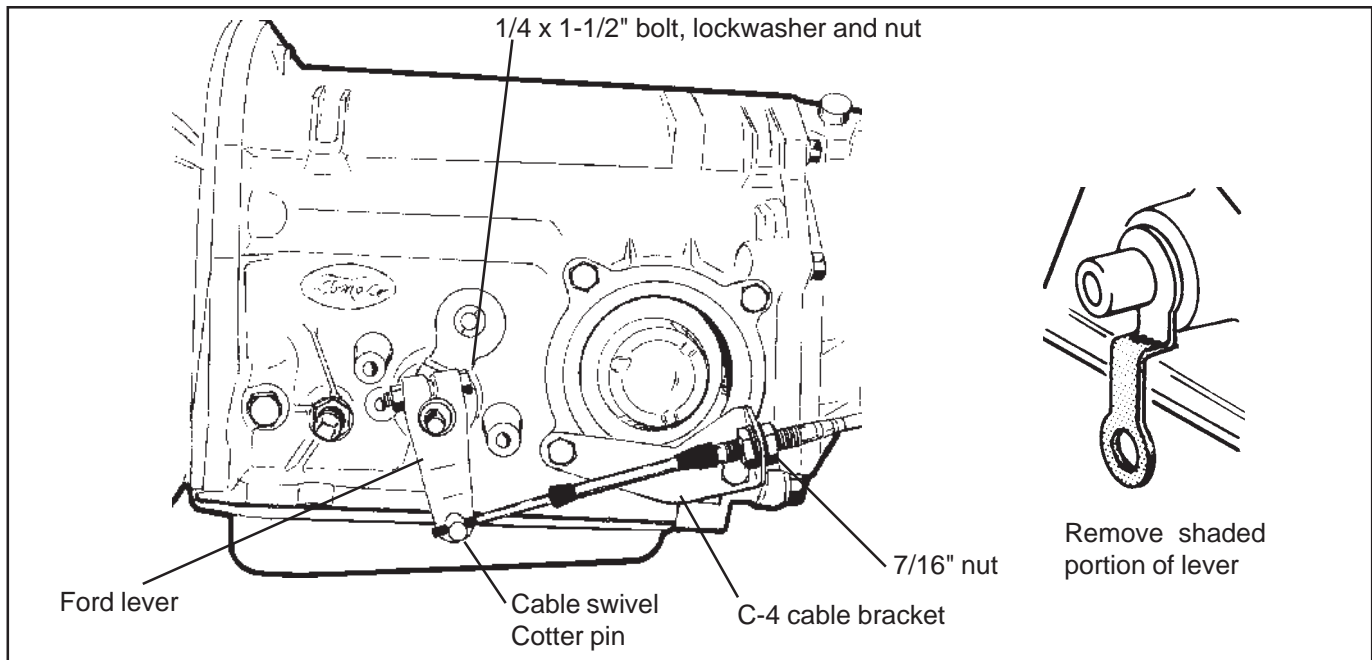

Figure 4
STEP 14. Install the **B&M** selector lever (See Figure 4 or 5). Note: The **B&M** lever must point downward for proper operation. If the stock shift lever on your transmission points down, you will have to remove the lower part of the stock arm by cutting it off to clear the **B&M** lever (See Figure 4). Install the **B&M** selector lever onto the shift shaft of the transmission. Align the selector lever so when it points straight down it travels equal arcs in both directions from the center, then tighten the ¼"-20 x 1 ½" pinch bolt and the nut. The lever should travel smoothly from front to back with a positive click in each gear position. Make sure the o-ring is in position on the downshift shaft and install the downshift lever in position on the shaft. Install the lockwasher and the nut and tighten securely. The downshift lever must operate smoothly. Reconnect the downshift linkage.
C-4, C-5: Remove the two lower bolts from the rear servo cover. Install the cable bracket in position (See Figure 4). Install the two servo cover bolts as removed and tighten to 12-13 lb. ft. Do not overtighten as this can distort the servo cover.